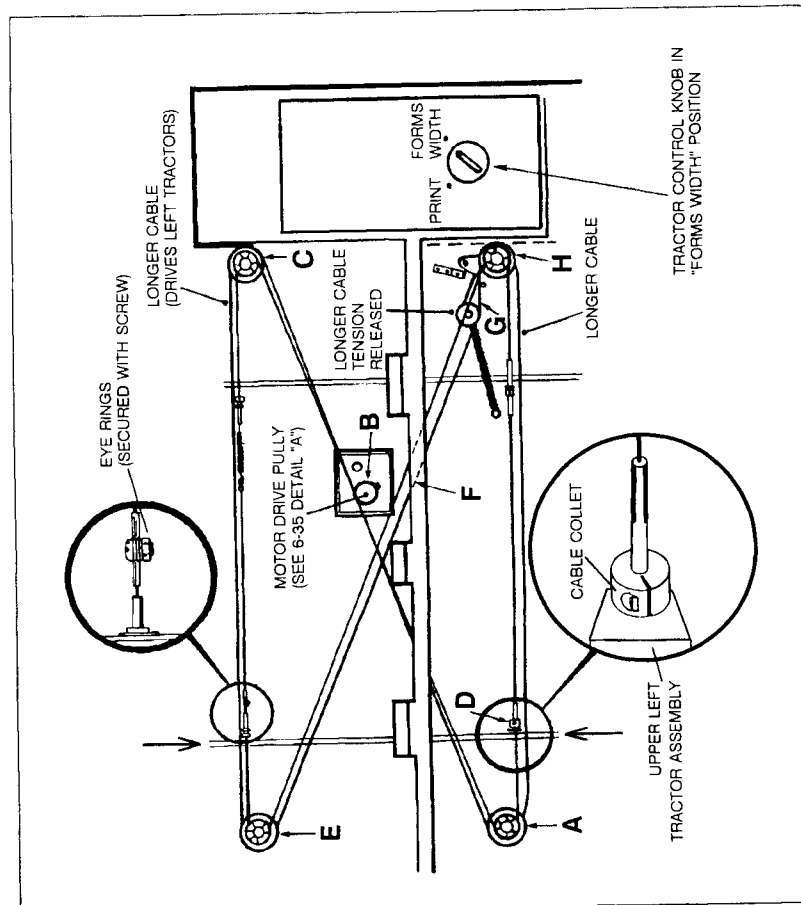

Figure 6-37a. Longer Left Tractor Drive Cable Removal
- e. On both upper and lower LEFT tractors, manually move the tractors so that its cable will slide through the notch in the AVB. (see Figures 6-37a and 6-37b).
When replacing the cable, be careful to thread it along the same path that it originally followed (refer to Figures 6-37a and 6-37b). Be certain that the new cable follows the correct path and is not crossed with the other cable, hung around other parts, etc. Replace as follows:
- c. String the remaining portion of the cable around the larger diameter upper left pulley (Figure 6-37a, "E") and down through the slot in the casting (see Figure 6-37a, "F"), to the lower right pulley.
- d. String the cable over (on top of) the tension (idler arm) pulley (see Figure 6-37a, "G"), then over the top of the lower right pulley, around the bottom of the pulley (see Figure 6-37a, "H"), and across to the lower left pulley.
- e. Route the cable around the bottom of the lower left pulley (see Figure 6-37a, "A") and up through the slot in the casting to the motor pulley (see Figure 6-37a, "B"). Note, the cable must be strung over itself where it crosses itself (just before the motor pulley), otherwise it will rub.
- g. From the motor pulley route the cable around the bottom of the upper right pulley (see Figure 6-37a, "C") and then pull the ends of the cable together. The Tractor Control Knob should be set to the FORMS WIDTH position. This raises the tension idler arm off the cable, providing the slack needed to join the cable ends.
- h. Attach the two cable eye rings at the ends of the cable together using the machine screw, washer, and nut (see Figure 6-37a, "D").
- i. Place the cable under tension (idler arm) pulley (see figure 6-37a, "G").